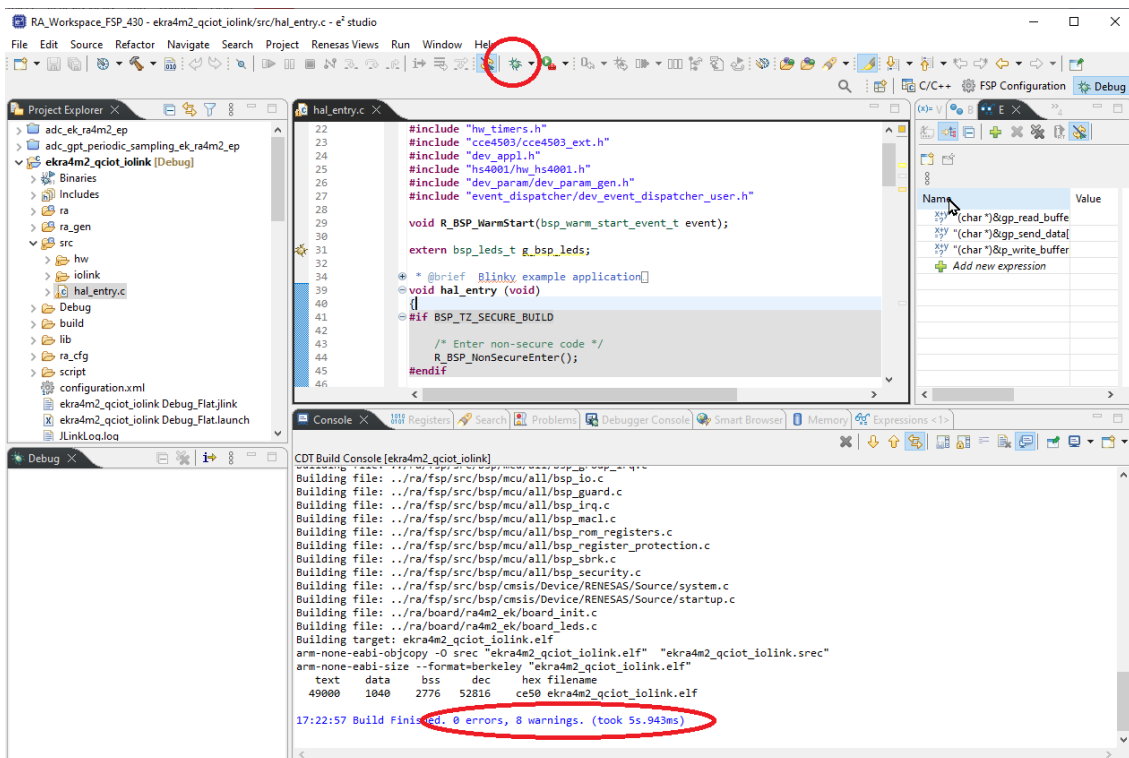

Figure 17. Flash and Debug the Sample Project
9. Debug the project by clicking on the Bug icon (see Figure 17).